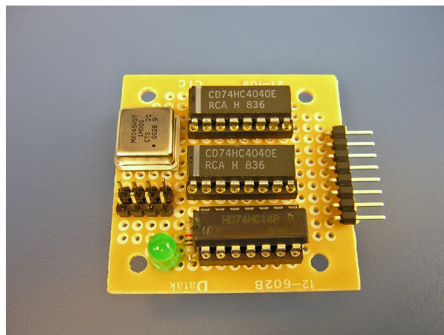

Figure 2. Sample Layout
3. The right-angle pin header is provided to easily connect the board to your breadboard and needs to protrude over the edge of the proto board, as depicted in Figure 2.